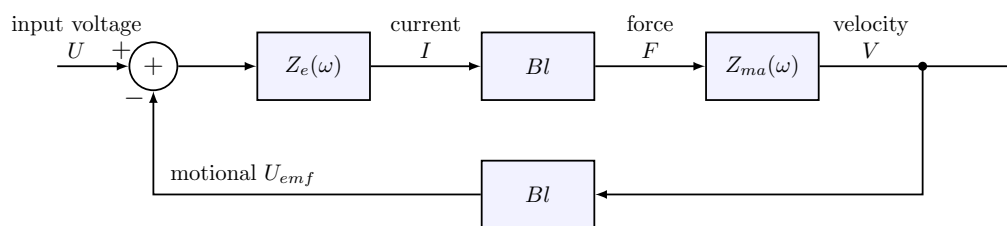

Fig. 4: Block diagram of a traditional linear low-frequency electrodynamic loudspeaker model.
- Additionally, discuss the relationship between voltage-driven and current-driven loudspeakers. It's important to note that loudspeakers are typically operated with a voltage source. When measurements are conducted using a current source, the behavior of the loudspeaker can change. Refer to Fig. 4 for a block diagram of a traditional linear low-frequency electrodynamic loudspeaker model and explain how the feedback loop due to the motional electromotive force U_{emf} is avoided when driving the loudspeaker from a current source.